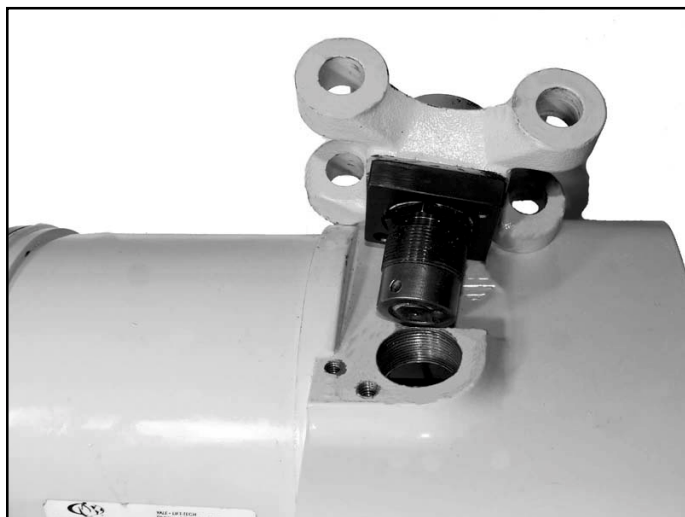

Figure 7-20. Removing Suspension Lug
(1) On 1/4 thru 1 ton models, remove screw securing suspension bushing keeper. Remove suspension lug using an extra thin 1-1/4" open end wrench to unscrew suspension bushing from frame. (See fig. 7-20).
(2) On 2 ton models, remove three hex socket head screws securing the two lock plates to block at top of frame and pull out locks. Remove suspension lug, using an extra thin 1-1/4" open end wrench to unscrew suspension bushing from block. Instructions for removing block from frame are given in paragraph b. (2).